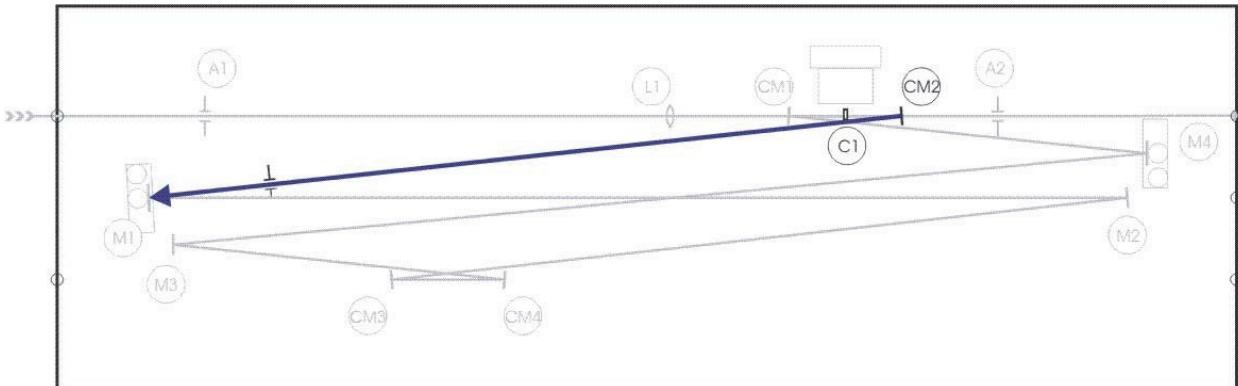

Figure 5.10.: Align CM2 to center green pump spot on M1. Use plug aperture position A4.
- Use the green pump spot in forward directions and adjust CM2 through the Lyot filter to center the green spot on M1 (Fig. 5.10)